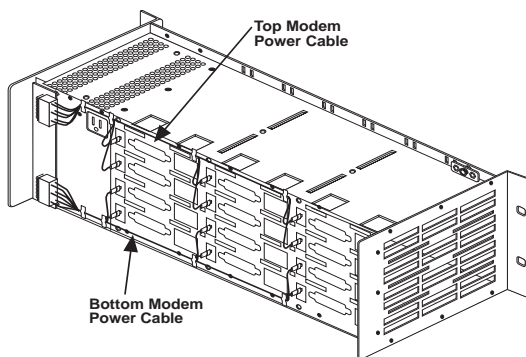

Figure 2-2. Modem Power Connection
8. Connect the appropriate (i.e., top or bottom) power cable on the back of the rack to the modem's power input jack. (See Figure 2-2.) You may have to hold the modem (device) in place from the front while connecting the power cable. The top power cable supplies power to the top six modems and the bottom power cable supplies power to the bottom six modems (or devices).